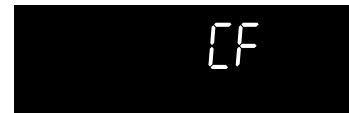

Fig. 2
- When convect convert is used with bake time, the convect convert feature will display a "CF" for **check food** when the bake time is 75% complete (See Fig. 2). At this time the oven control will sound one long beep at regular intervals until the set cook time has finished.